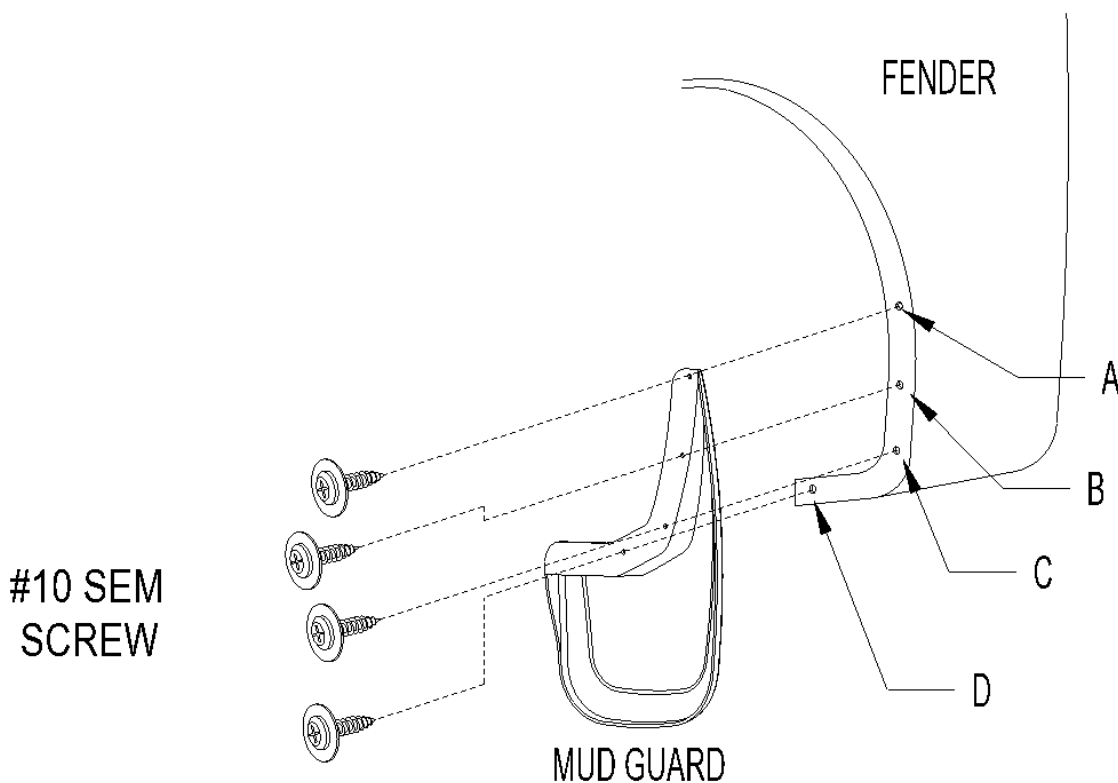

Figure 1
- #10 SEM Screw (8)
3. Install mud guard to rear fender with a #10 SEM screw at location B (Figure 1). Check fit and parallel and adjust accordingly before tightening.